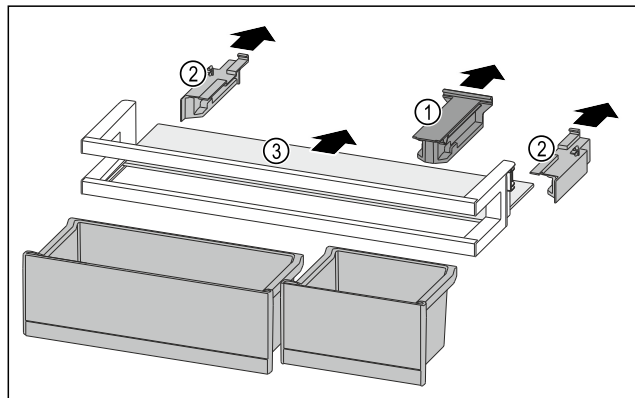

Fig. 115
- ▶ Pull off the holding part Fig. 115 (1).
- ▶ Pull off the side parts Fig. 115 (2).
- ▶ Remove the shelf Fig. 115 (3).